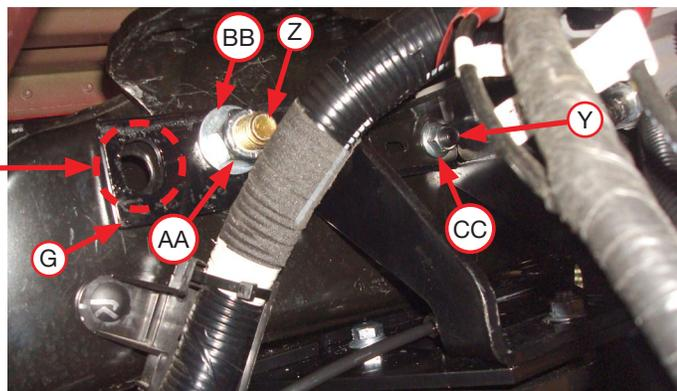

Fig. 31
4. Set the upper brace (G) in place over the 50mm set screw (Y) and against the frame. Ensure the large slot closest to the middle of the brace lines up with the fifth wheel bracket hole in the frame. Set the stock brake line bracket, previously removed, over the 50mm set screw and on top of the brace. Thread the M10 serrated flange lock nut (CC) onto the set screw. Reinstall the factory fifth wheel hardware previously removed (if equipped) or use the supplied 5/8" (Z, AA, BB) hardware through the frame and brace (Fig. 31). Leave loose at this time.